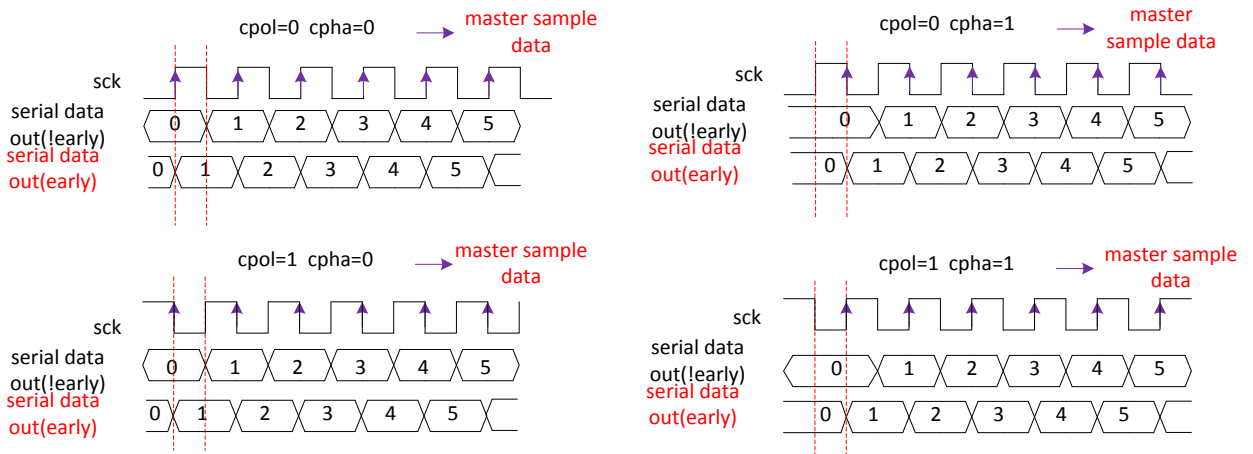

Figure 7.1-2. SPI slave controller early transmit
- For high-speed transmission, the SPI slave controller can enable early transmission feature (register) to resolve data path latency issue. The detailed description is shown in Figure 7.1-2.